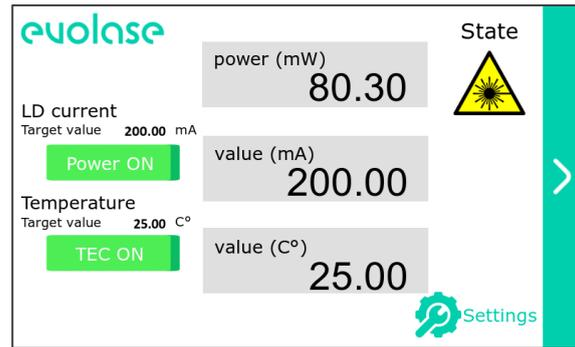

Figure 7 – Emission on state
11. Tap on “Power ON” button to turn on the laser diode emission. The button will light up green, a laser light icon will appear in the state column on the right side of the screen (fig. 7). The LD current target value is displayed above the button; the LD current value is displayed to the right of the button. The upper window displays the value of the optical power in accordance with the readings of the built-in monitor PD.